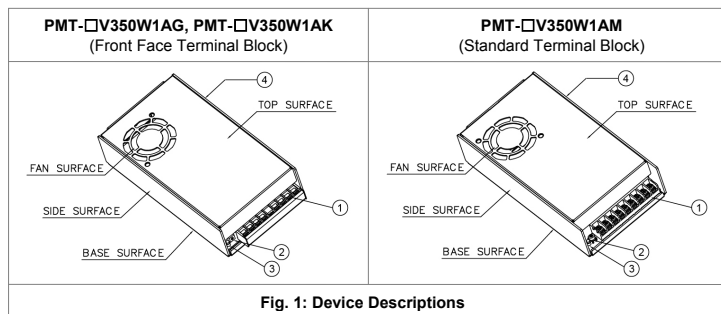

Fig. 1: Device Descriptions
- Must select correct AC input voltage before turning on (Refer to Fig. 1).
Refer to Fig. 1.: